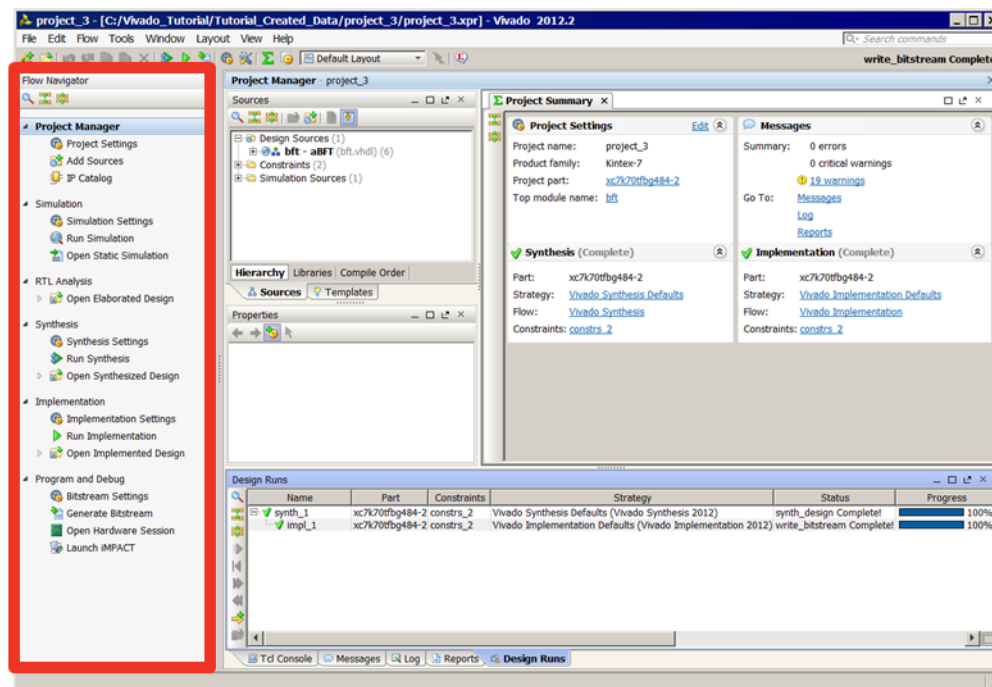

Figure 3-1: Flow Navigator in the Vivado IDE
Project Mode is the easiest way to get acquainted with the tool behavior and Xilinx® recommendations. In this mode, you use the Vivado IDE to automatically manage your design and design process. You can use the Flow Navigator within the Vivado IDE (Figure 3-1) to launch predefined design flow steps, such as synthesis and implementation. The Vivado IDE creates a directory structure and automatically manages your design, including management of source files, constraints, intellectual property (IP) data, synthesis and implementation run results, and reports. The Vivado IDE also manages and reports on the status of the source files, configuration, and the state of the design. In addition, this mode includes the following features:
- In GUI mode, you can use Flow Navigator (Figure 3-1) to launch predefined design flow steps, such as synthesis and implementation, and use various design analysis features. The GUI mode is the easiest way to get acquainted with the tool behavior and Xilinx recommendations.